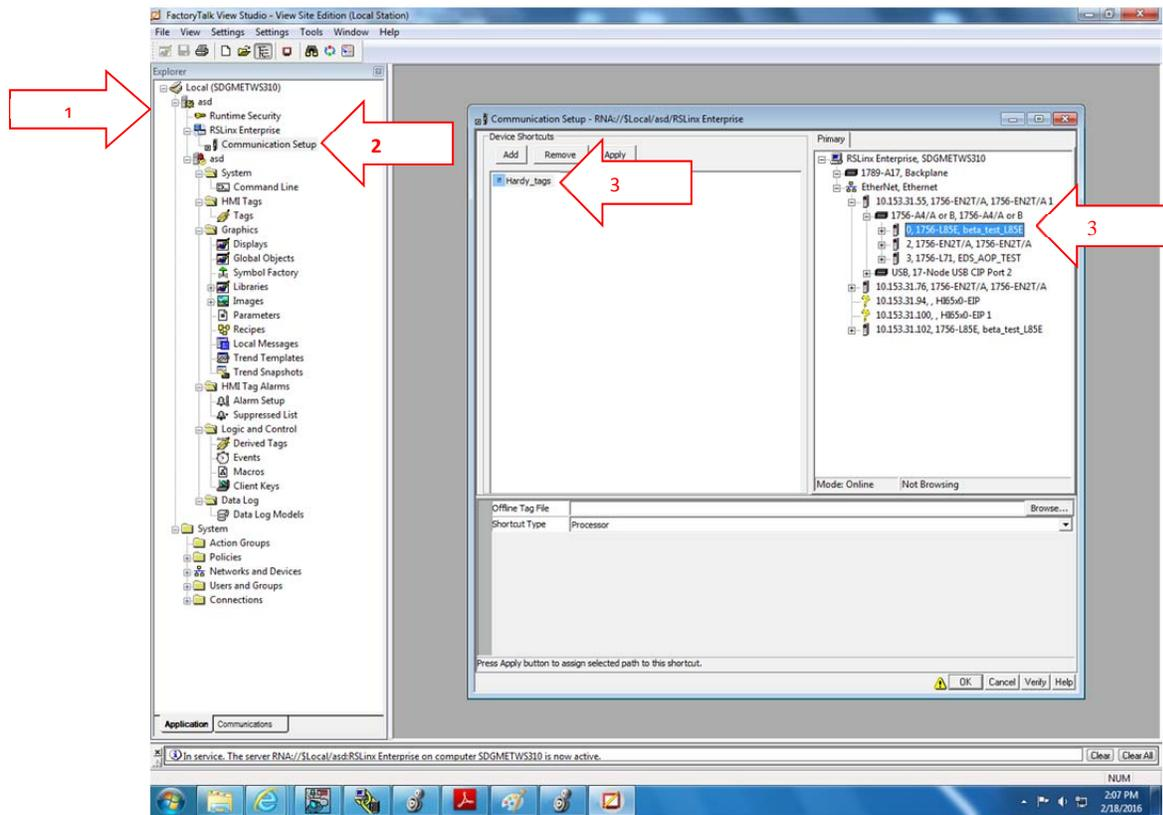

Figure 3
- Right click on the project name in the explorer navigation bar, found under Local (computer name). See Figure 3, note 1.
- First, add New Server and then add a Rockwell Automation Device Server (RSLinx Enterprise). The name can be left as it is the only server in the project. RSLinx Enterprise will appear in the explorer project tree; expand and double-click on “communication setup”. See Figure 3, note 2.
- In the PRIMARY window expand the driver being used to connect with the PLC processor and highlight the processor. With both the processor and the shortcut tag names now highlighted; click ok then yes to apply changes. See Figure 3, note 3.